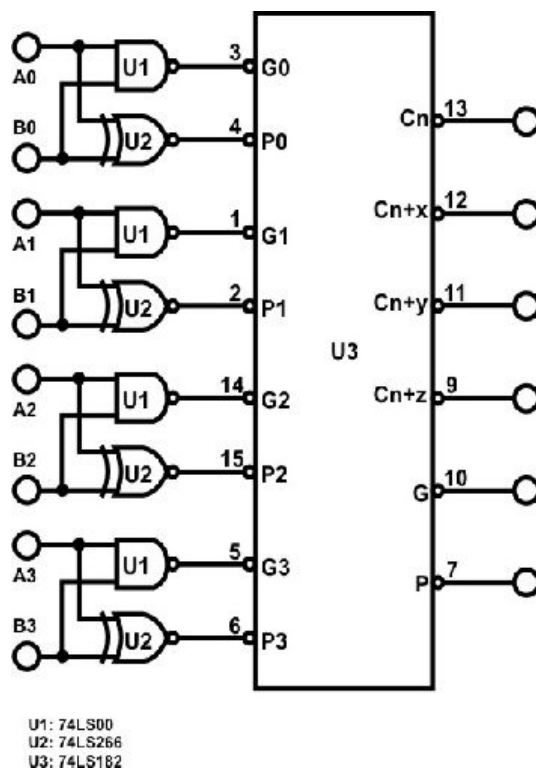

Figure 2.21: Carry generator circuit.
Connect input X0~X3 (addends), and Y0~Y3 (augends) to DIP switches DIP2.0~2.3 and DIP1.0~1.3 respectively as shown in Figure 2.21. Connect F1, F8,F9,F10 and F11 to L1~L5. Follow input sequences in Table 2.7 and set SW0 to “0”; record F1 and Σ in binary numbers.
- a) 74182 on block a KL-33003 is used to construct a carry generator circuit shown in Figure 2.21.